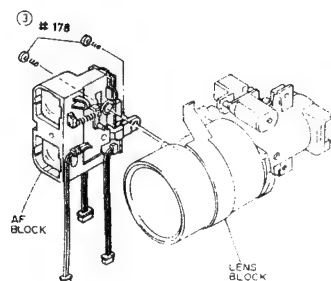

Fig. 2-105
- 2) Unsolder two (2) connectors on the autofocus circuit board. (See Fig. 2-105)
- 3) Remove two (2) screws holding the AF block.